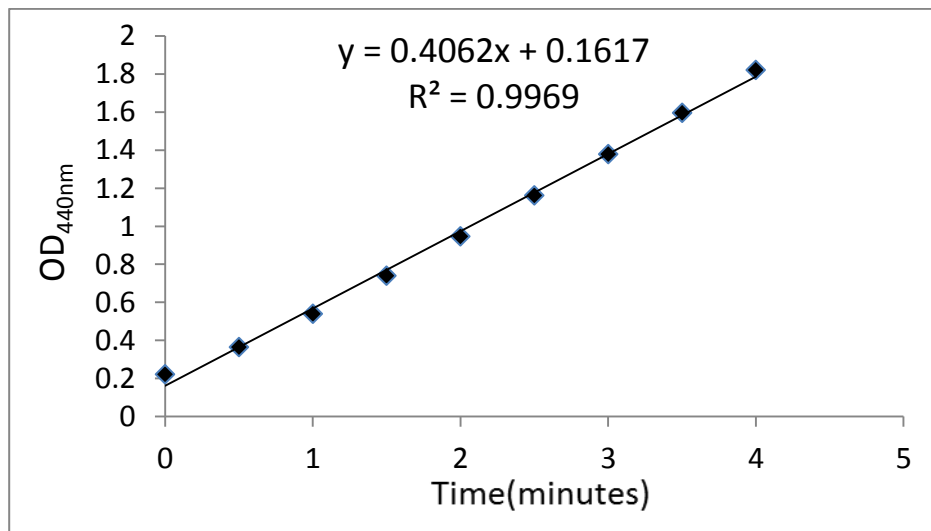

Figure.1 Absorbance change of diluted ALDH positive control at 440nm.
Diluted ALDH positive control is measured with the ALDH Assay kit after various reaction times (Figure 1 and 2). The detection range has a limitation of an absorbance increase of 0.01 to 0.5 per minute.
2. Add 90  $\mu\text{L}$  of working reagent mix into each well of a 96-well plate containing the diluted ALDH positive control, samples, and blank. Immediately mix well and start recording  $\text{OD}_{440\text{nm}}$  over 4 minute intervals, collecting data every 0.5 min. Figure 1 shows the data of ALDH positive control.